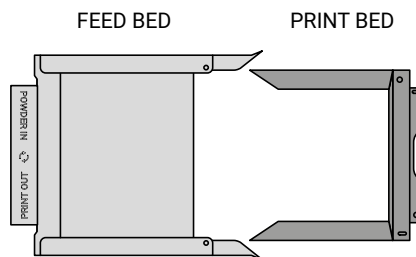

Fig. 3.2 The proper arrangement of the IO BOX, allowing the user to remove the finished printout.
6. Place the folded IO BOX inside the print chamber. Make sure its elements are arranged like in the picture (fig. 3.2.)